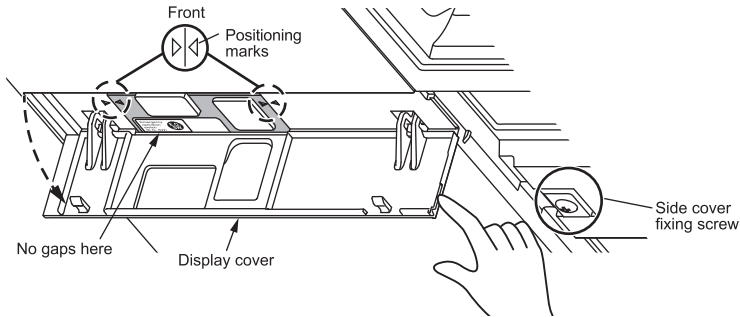

Fig. 9
- Open the display cover and check that the positioning marks are aligned correctly. (Fig. 9)
- Make sure that there are no gaps between the emergency operation switch (E.O.SW) and the side cover. (Fig. 9)
11. Fix the side covers L/R with the side cover fixing screws removed in step 2. (Fig. 9)